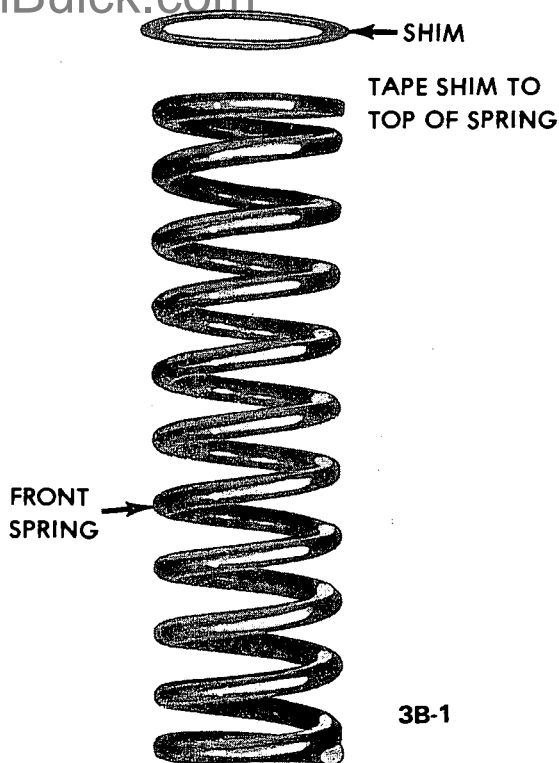

Figure 3B-1 - Installing Shim on Spring
2. Place shim at top of spring as shown in Figure 3B-1. Taping shim to spring will aid installation.